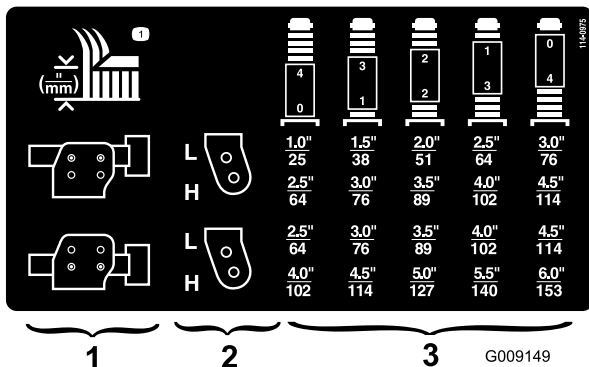

Figure 21
3. Position the castor-wheel axles in the same holes in all castor forks; refer to the chart (Figure 21) to determine the correct holes for the setting.
Note: Refer to the chart to determine the combinations of spacers for the setting (Figure 21).